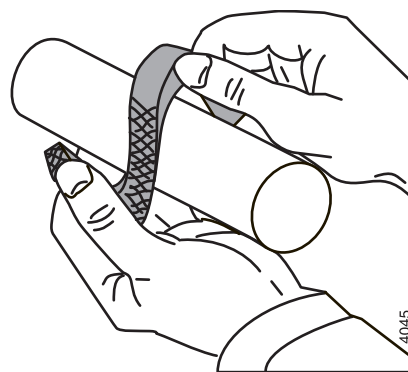

Figure 17: Bending open a stuffing box packing ring.
- 1 Fit the 5 packing rings. Place the packing rings with the openings offset. The packing rings may only be bent open axially, see figure 17.